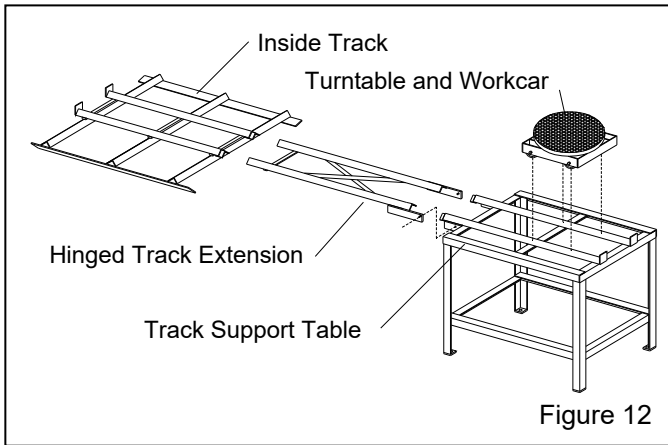

Figure 12
3.5.1 Components of the turntable and track assembly are shown in Figure 12. The assembly consists of: